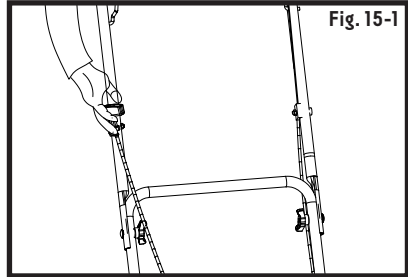

Fig. 15-1
3. Pull the starter handle out approximately 4 to 6" (10 to 15 cm) until you feel a resistance and then start the engine with a sharp pull (see Fig. 15-1).